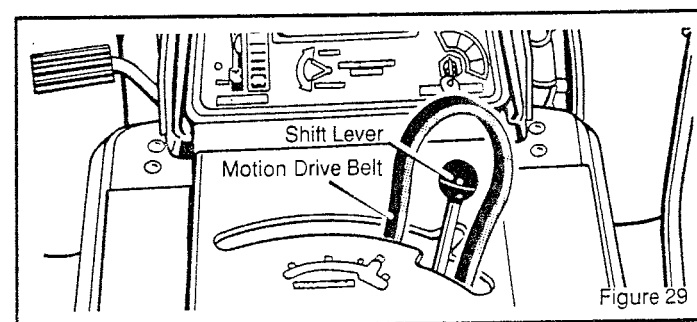

Figure 29
Put the end of the **motion drive belt** from the drive pulley through the hole for the **shift lever** (Figure 29). Move the **shift lever** and push the belt under the **shift lever**.
2. Push the **motion drive belt** through the hole in the frame for the **shift lever** (Figure 29). Lift the end of the belt over the **shift lever** and back down through the hole in the frame.